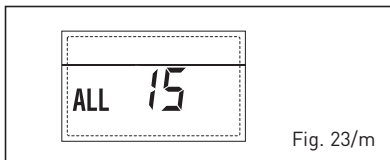

Fig. 23/m
- **EXTERNAL PROBE ERROR "FLASHING" (fig. 23/p)**